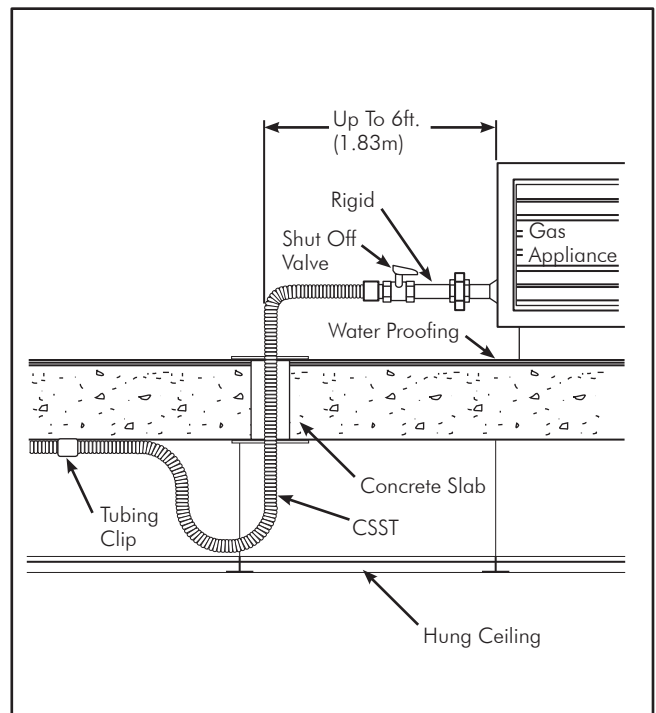
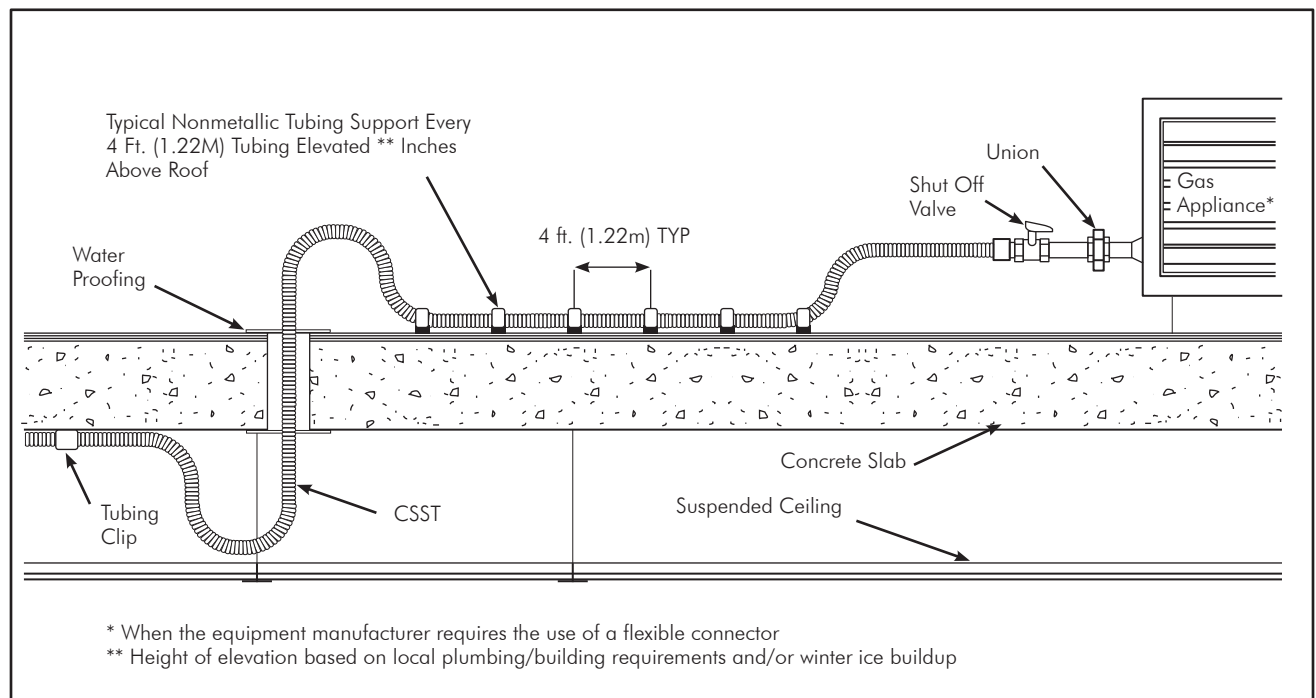

FIG. 4-29 Short, 1-6ft. (.30m-1.83m) Outdoor Connection to Roof Mounted Equipment
FIG. 4-30 Long Outdoor Connection To Mounted Equipment
- No special mechanical protection of the tubing is required for connections to roof top equipment. Whenever possible, roof penetrations shall include an outdoor termination or stub-out fitting and shall be located within 6 ft. (1.83m) of the equipment to be connected as shown in FIG. 4-29. Long runs of tubing shall be supported with nonmetallic blocks every 4 ft. (1.22m) along its outdoor length, and raised above the roof (as shown FIG. 4-30) a distance determined by local code/practice.